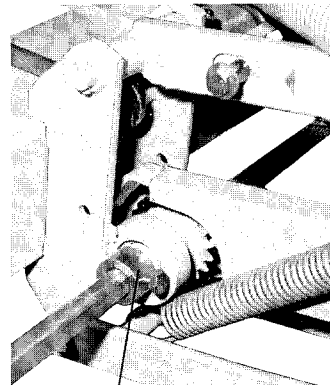
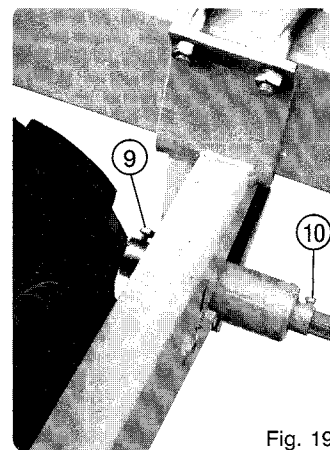

Fig. 18
Fig. 19
Check that the bushing stops of the upper hex shaft (8) fig. 18 and the bolts (9) and (10) fig. 19 of the drive wheel blocks that secure the lower hex shaft are tight.